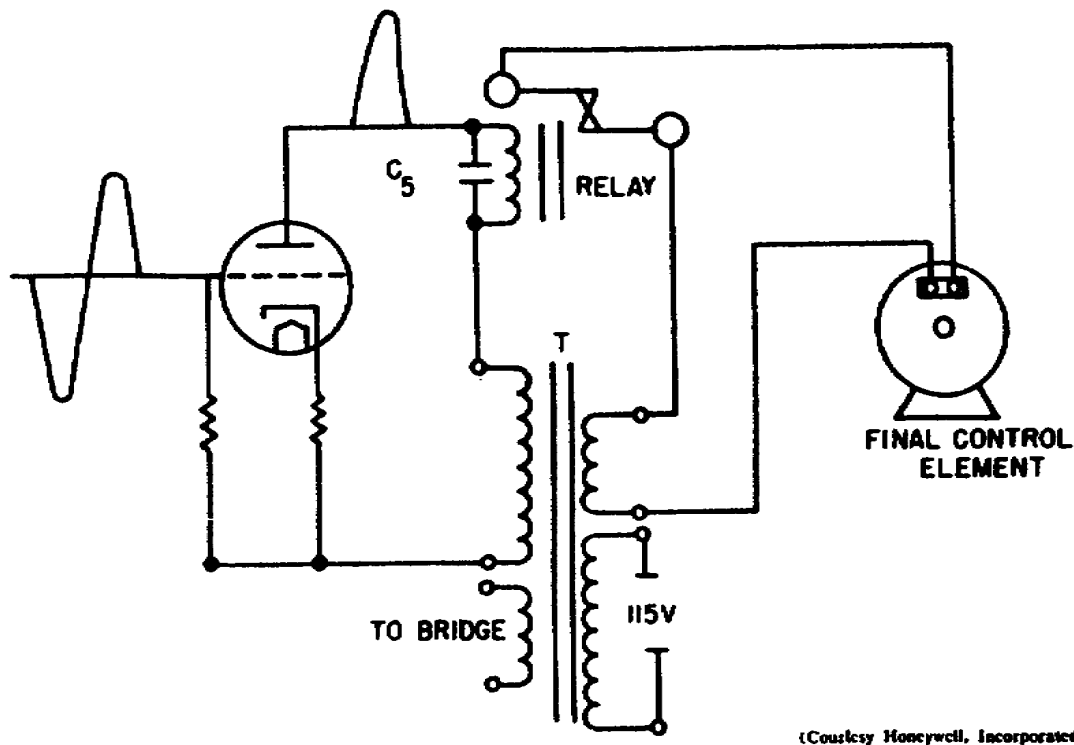

Figure 130. Discriminator circuit.
5. The power amplifier require a higher voltage driving signal but controls a much larger current. This current is then used to energize a relay and operates the final control element. In the discriminator circuit shown in figure 130, when the signal goes negative, cutoff bias is reached on the control grid. Also, the tube will conduct only when the plate is positive. Plate current will therefore be similar to the output of a half-wave rectifier.